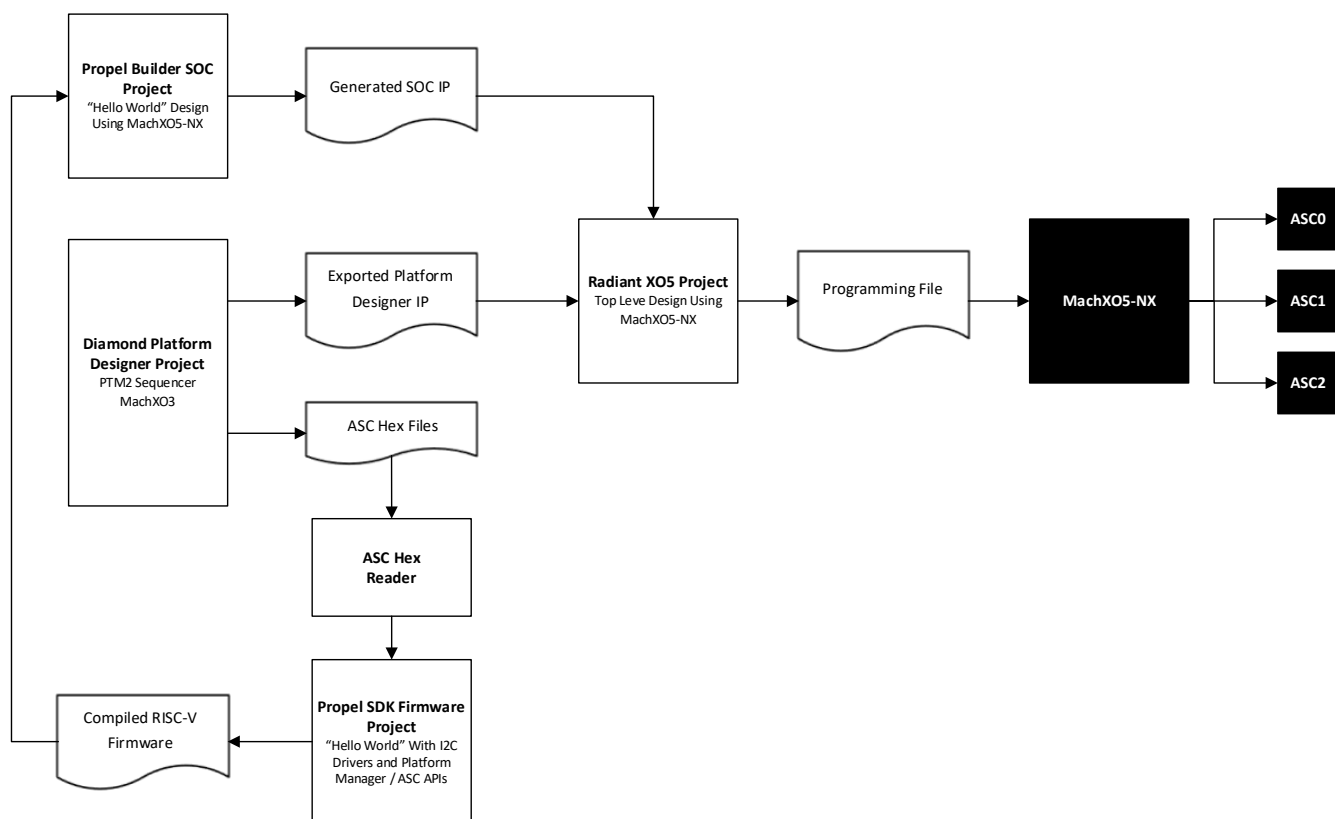

Figure 1.1. MachXO5-NX and (3) L-ASC10s Project Flow Block Diagram
This User Guide describes the MachXO5-NX and (3) L-ASC10s demo project. Figure 1.1 illustrates both the project block diagram and a block diagram of the design flow. The design flow for a project like this one is not a linear flow; rather it can be a bouncing back and forth from several tools to achieve a final system design.